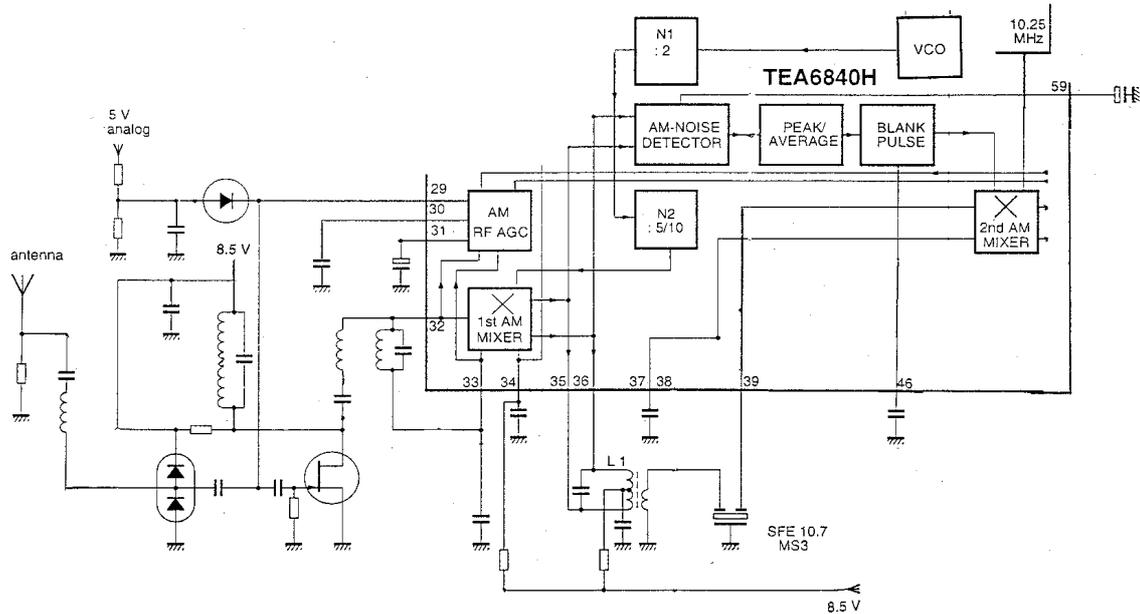

Fig. 4 AM-RF Input Amplifier for LW/MW.
**The Aerial input** (wideband-) amplifier, shown in Fig. 4, consists of: